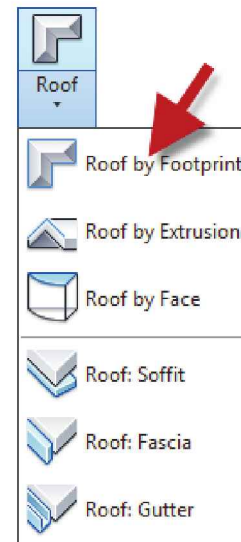

FIGURE 6-1.2 Rename prompt
9. Click **Yes** when prompted to rename corresponding views (Figure 6-1.2).